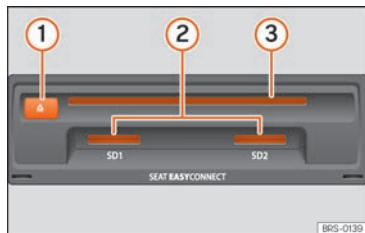

Fig. 210 Slots for data storage devices in the glove compartment.
- »» **Fig. 210** (3) with the printed side facing upwards, until the equipment inserts it automatically.
Insert the compatible memory card, with the cut corner first and the contacts facing down, into slot »» **Fig. 210** (2) or »» **Fig. 173** (9), until it clicks into place.